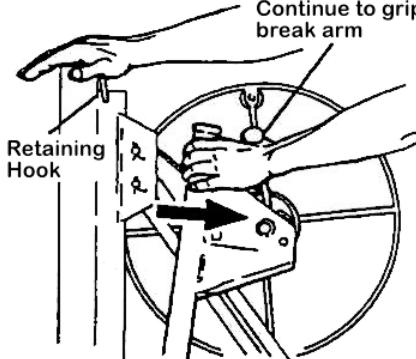

Figure 4
- Place your right hand on top of the frame. Continue to grip the brake arm as needed to prevent cable backlash, and pull the winch assembly all the way toward you. (Figure 4)